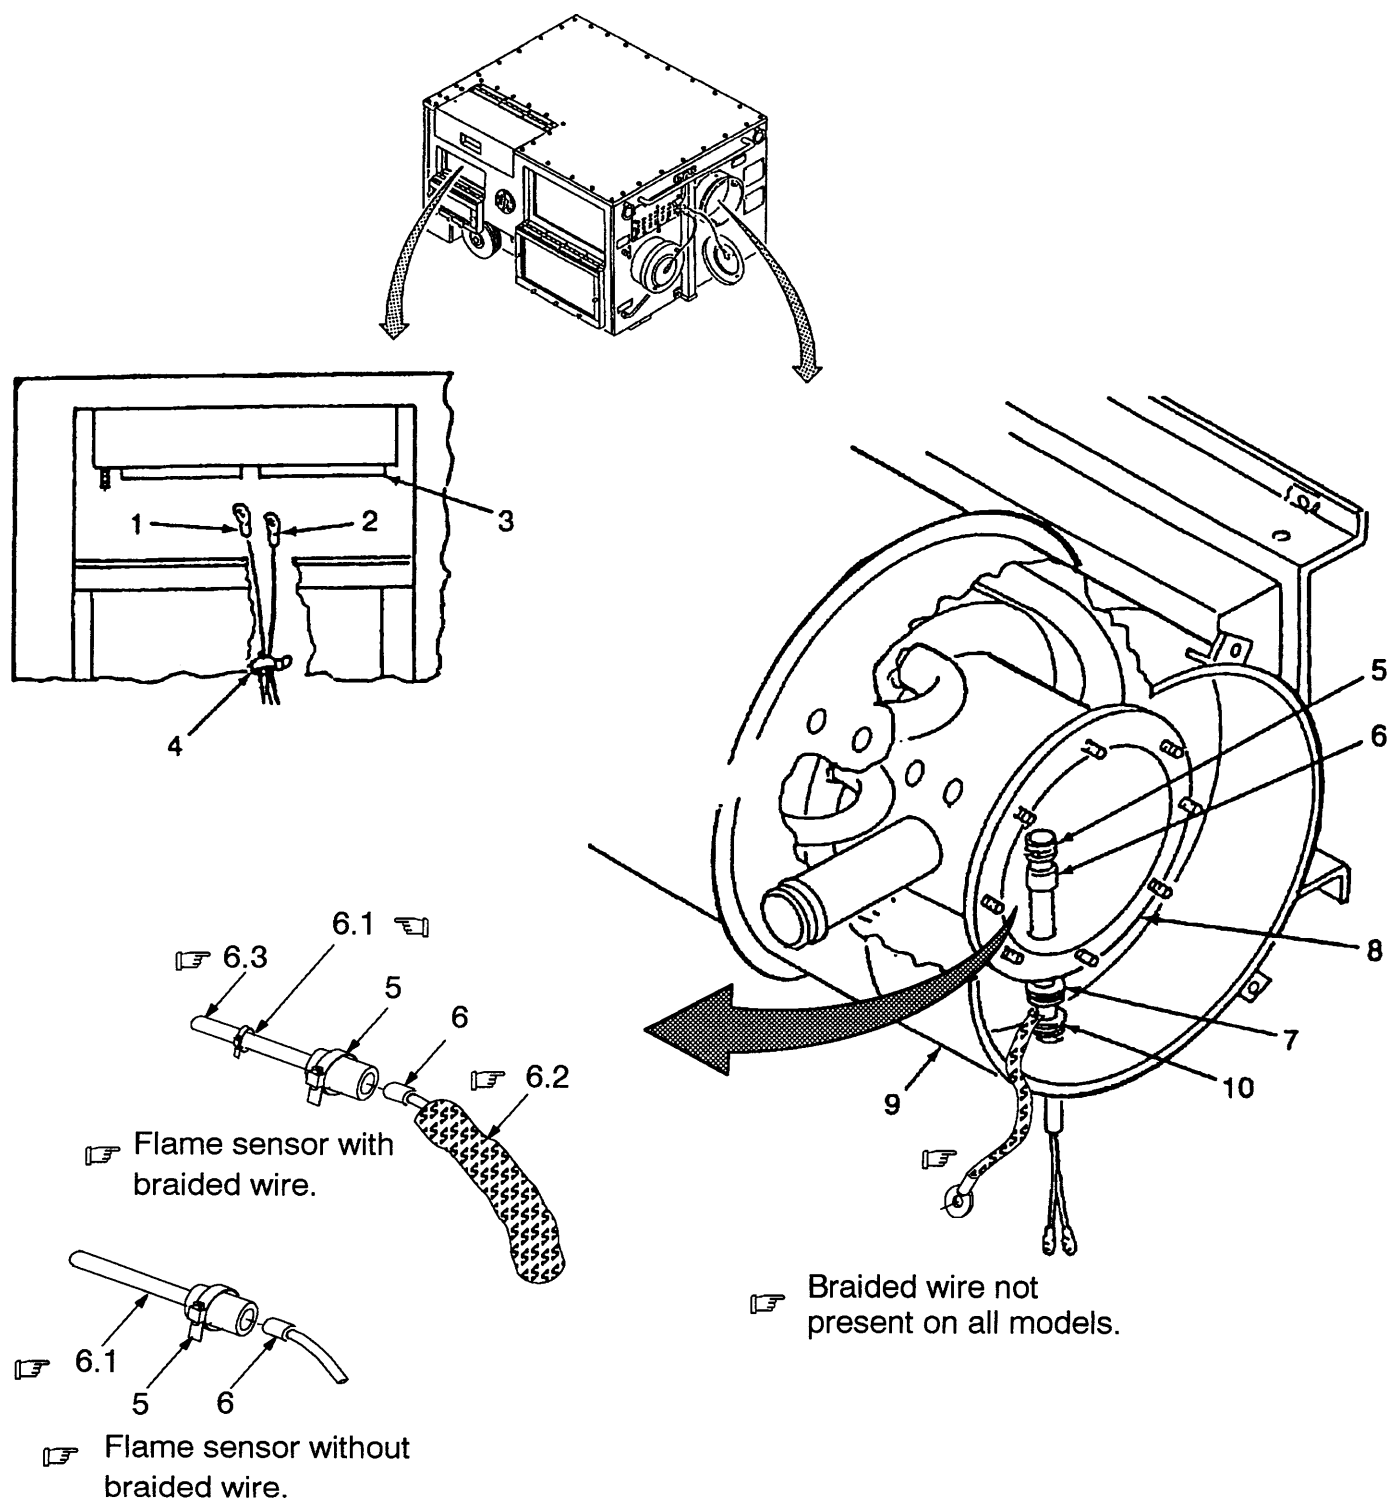

Figure 4-62. Flame Sensor Removal
*Flame Sensor* (Refer to Figure 4-62)